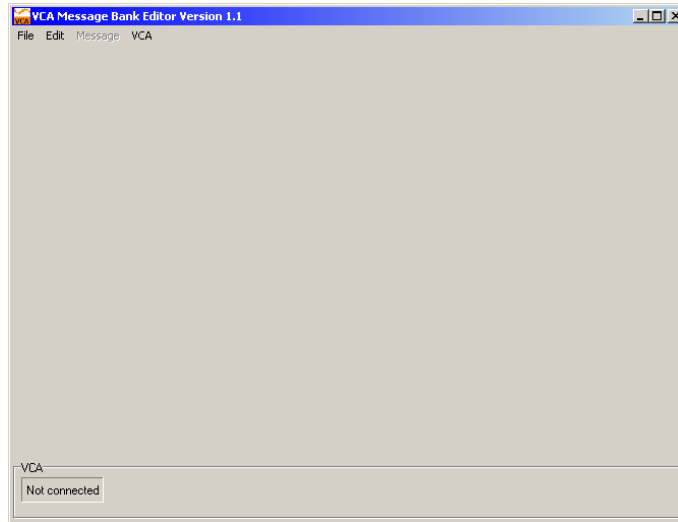

Figure 36 - Message Bank Editor Main Window
1. To start the editor, double click on the VCA Message Bank Editor executable file. A title window will appear for a moment showing the software version number as the program starts up. The main editor window, as shown in Figure 36, will appear.